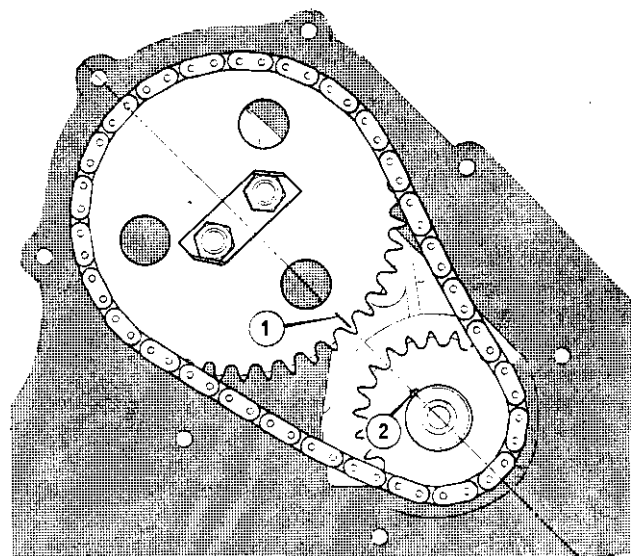

Figure 12 Alignment of camshaft sprocket and woodruff key
3. Check the valve timing, ensuring that the timing mark on the camshaft sprocket aligns with the woodruff key on the crankshaft (Figure 12).